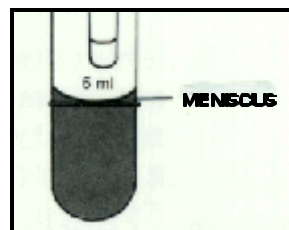

Figure 2
1. Remove the cap from a black-capped tube and add oil up to the 5 mL line using a polyethylene pipettor (See Figure 2). Replace the cap tightly on the tube.